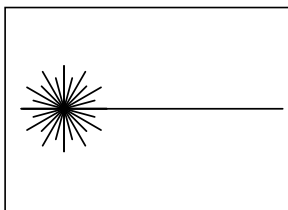

Figure 2.6 7035 Scanner Warning Indication
- Test the scanner by pointing it at a light coloured surface and pressing the scan key or the pistol grip trigger. The scanning beam should be energized and the warning indicator (shown in Figure 2.6) should be displayed on the terminal screen.